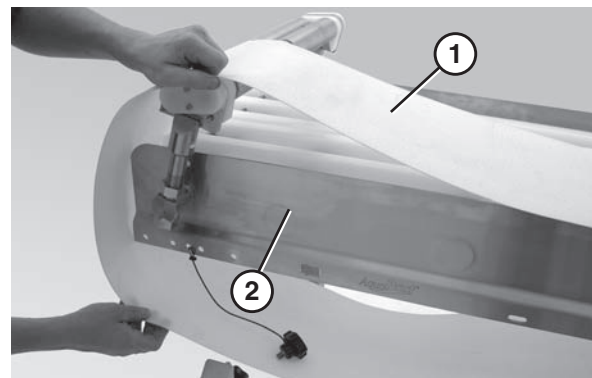

Figure 49
3. Slide the old belt (Figure 49, item 1) off the conveyor frame (Figure 49, item 2).